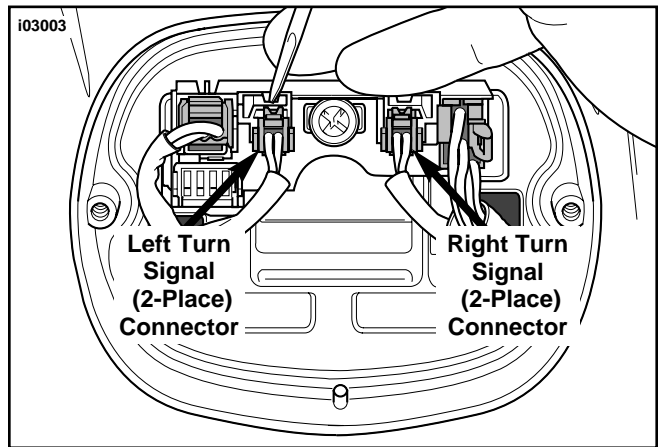

Figure 2. Disconnect Turn Signals (2000 FLSTF Shown)
- b. See Figure 2. Disconnect left and right turn signal (2-Place) connectors from sockets. Refer to Appendix covering Amp Electrical Connectors and remove left and right signal wires from connectors. Save connectors for installation.